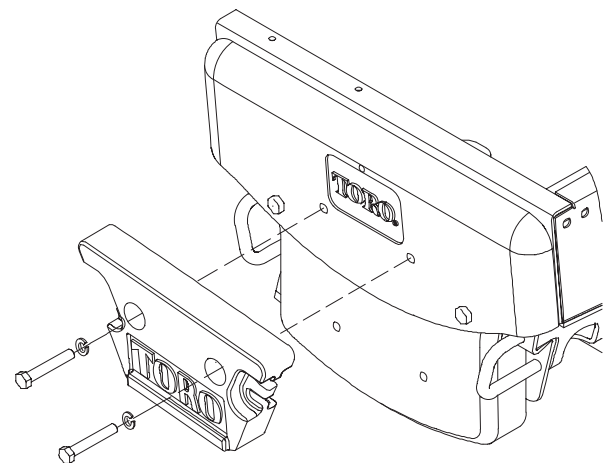

Figure 3
2. Using the vacated mounting holes in the weight, mount the weight to the standard rear weight with (2) 1/2-13 x 4-1/2" capscrews and lockwashers (Fig. 3).